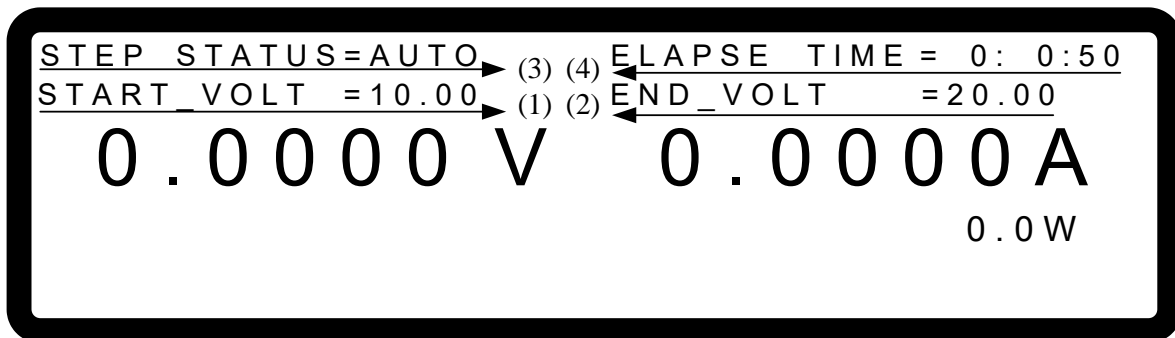

Figure 4-24
When executing V_STEP MODE its main screen is as Figure 4-24 shows. The following explains the meaning of (1)~(4) in Figure 4-24.